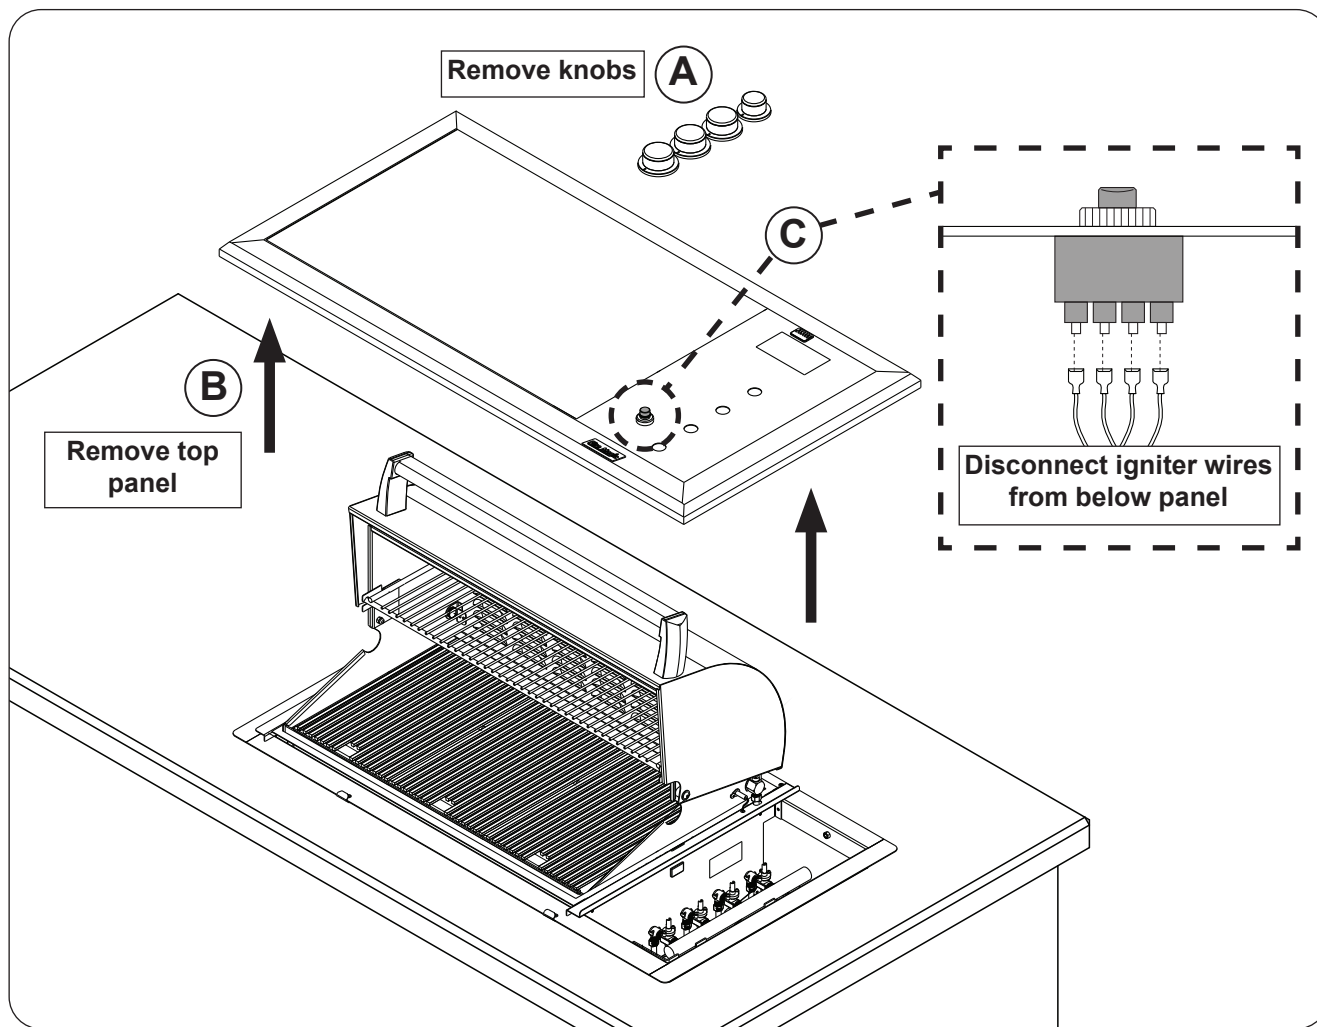

Fig. 37-1 Top panel removal
2. Pull the control knobs from their stems and set them aside (see Fig. 37-1, A).
3. Carefully, but firmly, detach the top panel from the frame (see Fig. 37-1, B).
4. While lifting the top panel, carefully disconnect the igniter wires from underneath the top panel to completely free the panel from the grill (see Fig. 37-1, C).